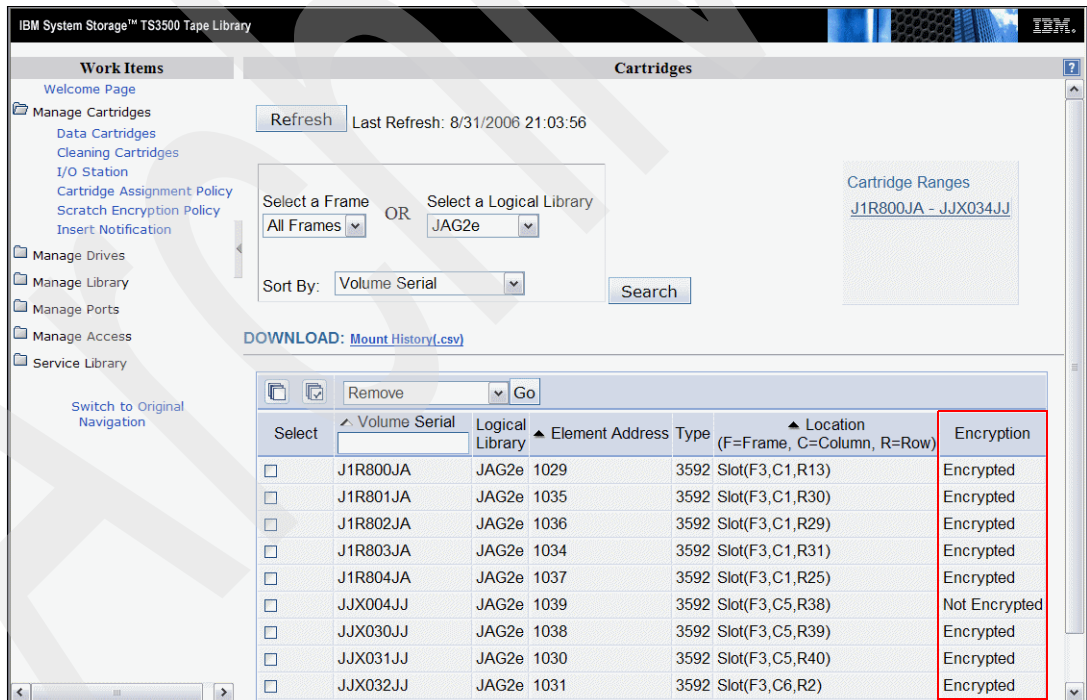

Figure 6-82 Working with data cartridges properties
- The last column in the list shows whether a cartridge is encrypted (Figure 6-82).